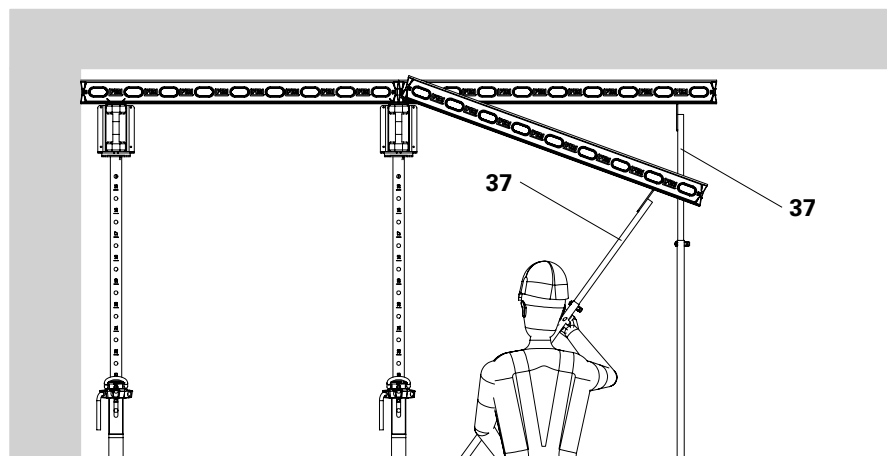

Fig. D6.24
4. Before removing a girder, support every panel that is lying on the girder using DUO shuttering aids (**37**). (Fig. D6.24)